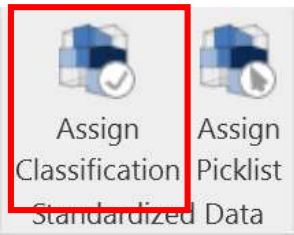
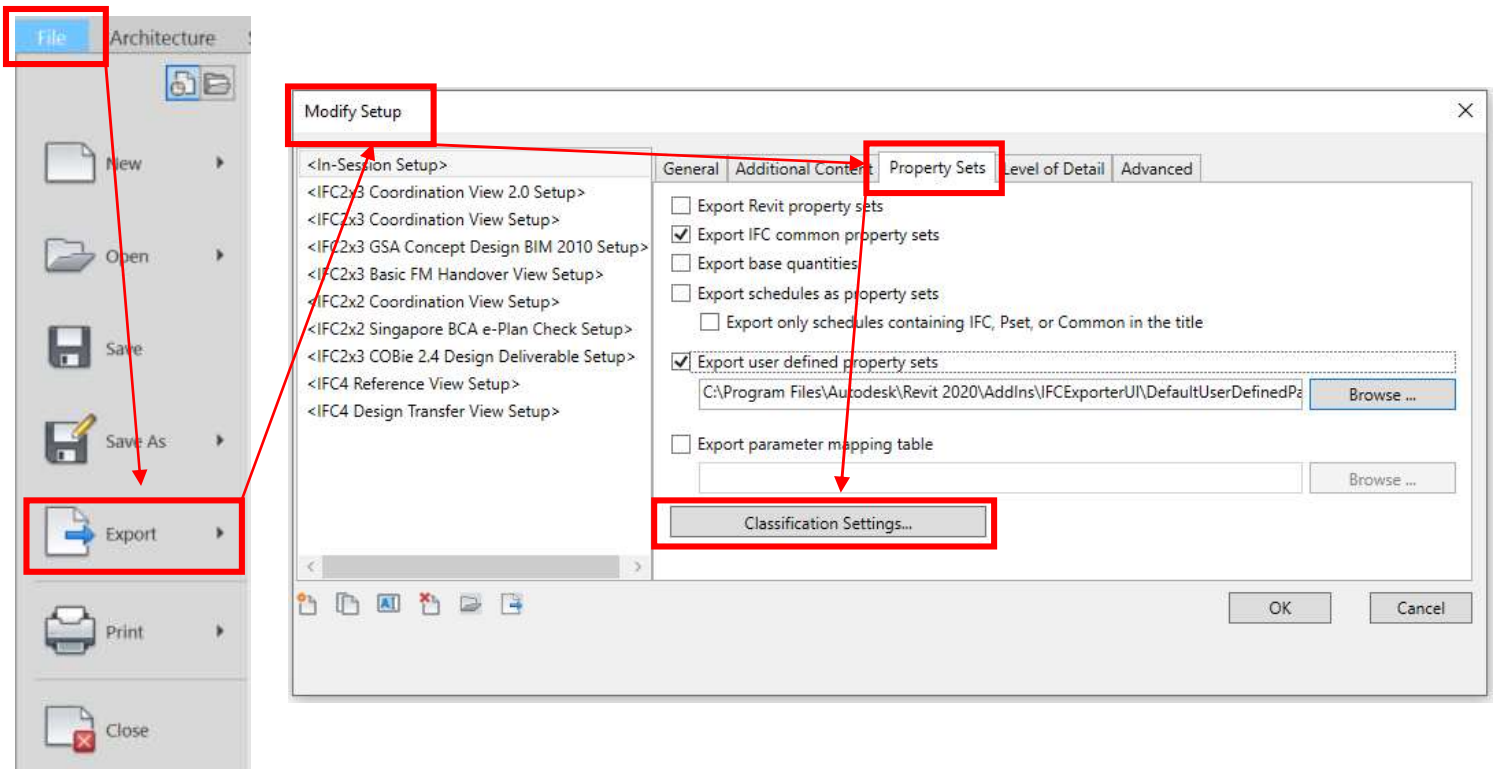

Figure 3 - Standardised Data ribbon – Assign Classification
Figure 4 - Ifc Modify Setup Property Sets
3. Select the *Assign Classification* on the Standardised Data Tool ribbon per figure 3, use the picklist icon per figure 4 to display the master asset list loaded in step 2.